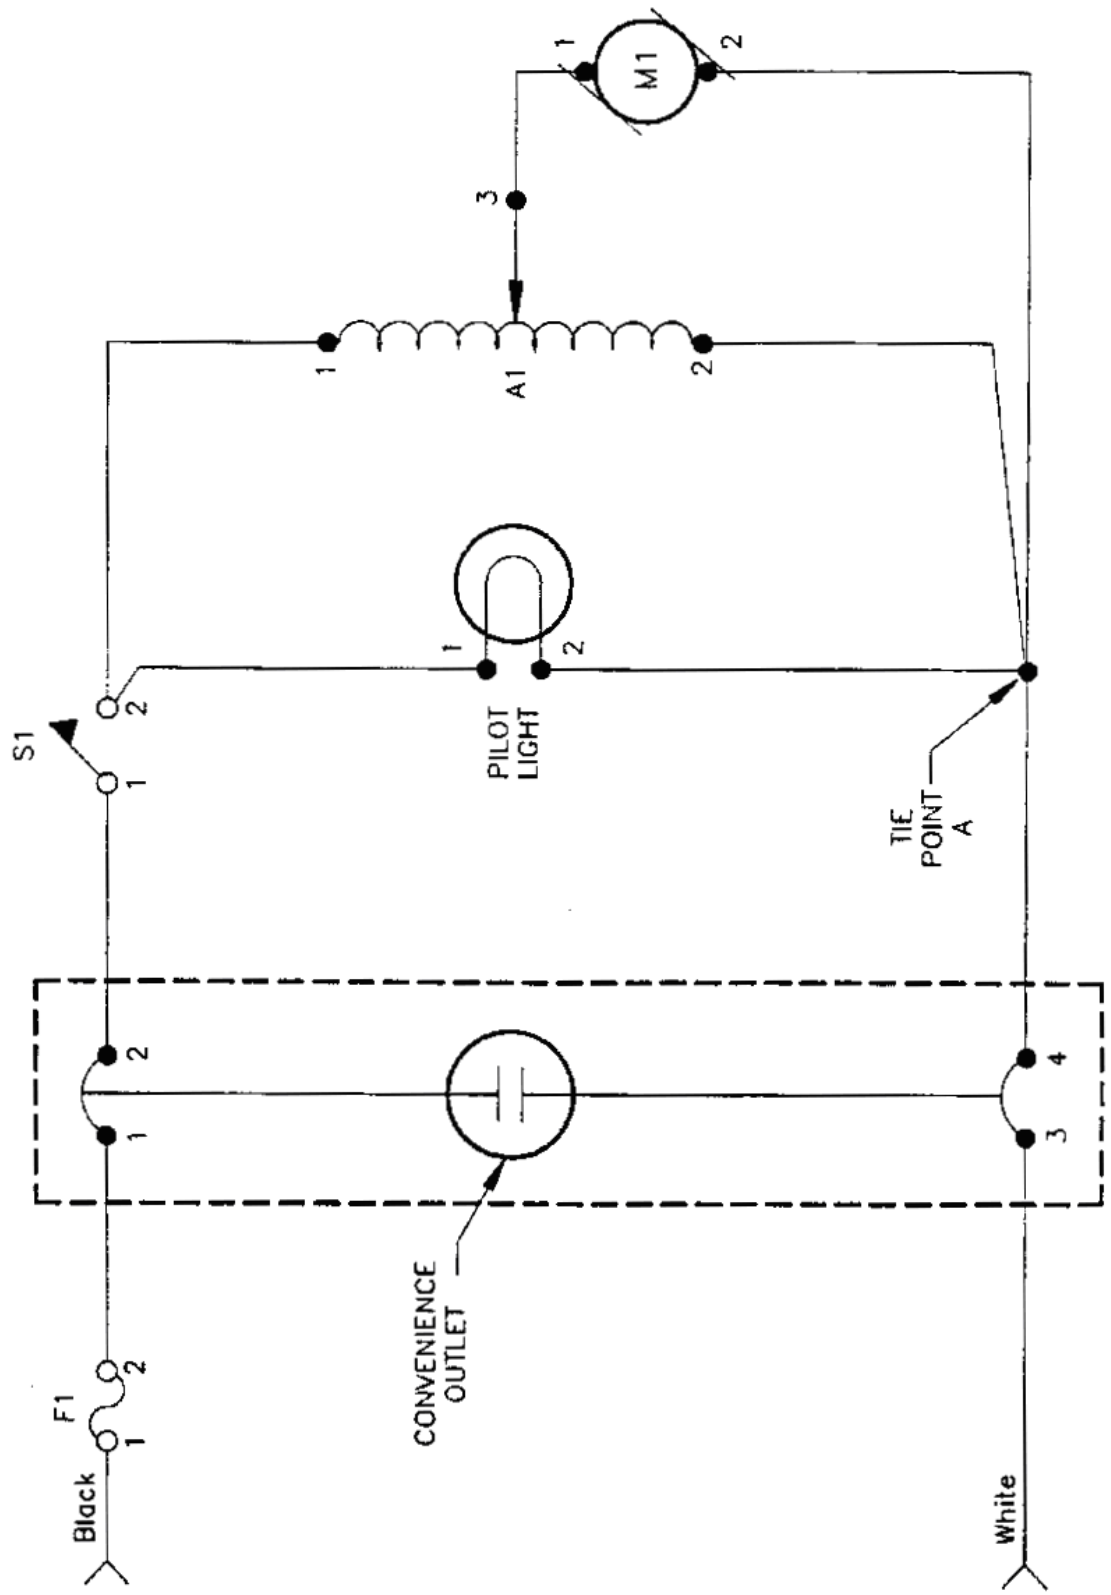

Figure 1-1. Schematic wiring diagram of the Emerson 55-JS suction apparatus.
a. **Vacuum Motor.** The vacuum motor is identified as M1 in the schematic wiring diagram shown in figure 1-1. It operates in the vane method, but in this case, the vanes are fixed (non-movable). The vanes extend from the motor to the housing. As the motor spins, the vanes pull a vacuum at one or more openings and push the air out of another opening. This creates suction to the collection bottle. The motor is replaced as a unit.
b. **Off/On Switch.** The off/on switch is identified as S1 in the schematic (figure 1-1).
e. **Variac Switch.** Labeled A1 in the schematic (figure 1-1), the Variac is a speed control. The winding between A1-2 and A1-3 is the power source for the M1 circuit.
Refer to figure 1-1 as we begin to trace the electrical circuit with the white wire also known as the neutral or ground wire.